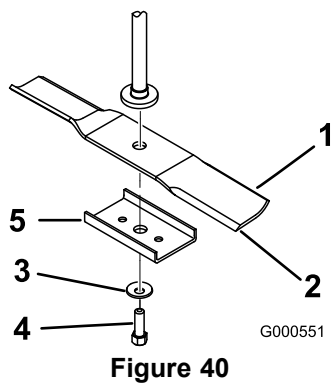

Figure 40
Hold the blade end using a rag or thickly-padded glove. Remove the blade bolt, curved washer, blade stiffener, and blade from the spindle shaft (Figure 40).
1. Install the blade onto the spindle shaft (Figure 40).
2. Install the blade stiffener, the curved washer (cupped side toward the blade) and the blade bolt (Figure 40).